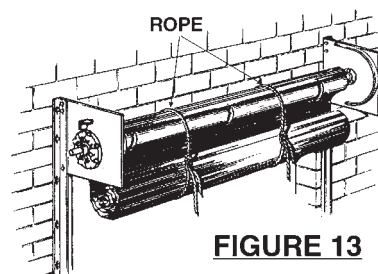

FIGURE 13
STEP 10 INSTALLATION OF CURTAIN: See Figure 13